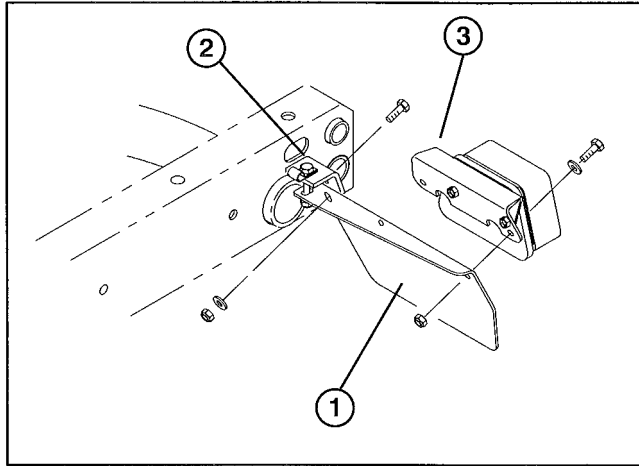

Figure 1
3. Secure rear of each tail light plate to rear of frame brackets with a 5/16-18 x 1" lg. cap screw, .344" I.D. flatwasher and nut, as shown in figure 1.
4. On left side, remove (2) capscrews, washers and nuts securing tail light mounting bracket to tail light plate.